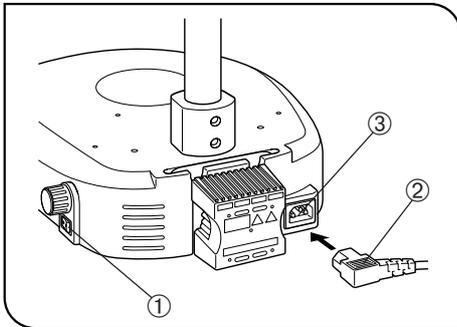

Fig. 22
5 Connecting the Power Cord (Figs. 22 & 23)
- ▲ Make sure that the main switch ① is set to “○” (OFF) before connecting the power cord.
1. Connect the power cord plug ② to the AC receptacle ③. (Fig. 22)
2. Connect the power cord plug ④ to a 3-conductor power outlet ⑤.